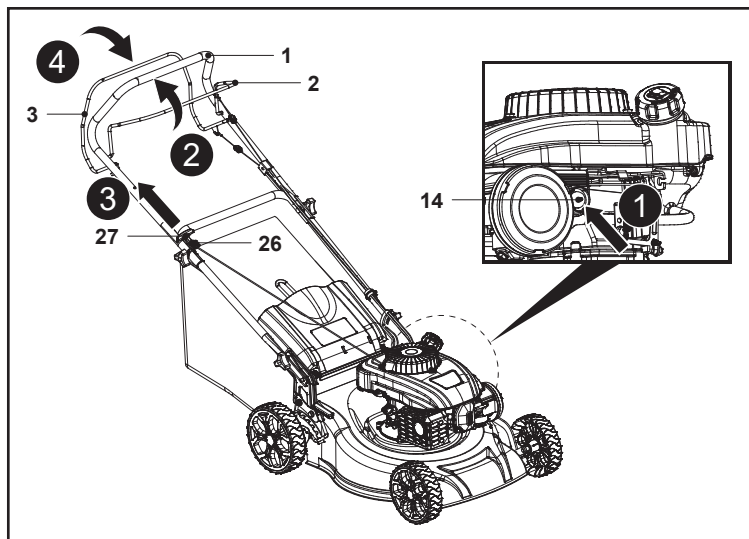

Fig. 18
1. Press the primer (14) 3 times if the engine is cold (Fig. 18, step 1). You can go directly to the next step if the engine is warm.
2. Stand behind the grip handle (1).
3. Pull back the brake lever (2) and hold it against the grip handle (1) (Fig. 18, step 2).
4. Rest the recoil starter handle (27) onto the hook (26) located on the right-hand side of the handle assembly (4, 7).
5. Pull the recoil starter handle (27) lightly until you feel resistance then pull it rapidly. Do it repeatedly until the engine starts (Fig. 18, step 3).
6. When you are ready to mow, push the self-propelling lever (3) forward and hold it against the grip handle (1) (Fig. 18, step 4). The machine starts moving forward and begins mowing.